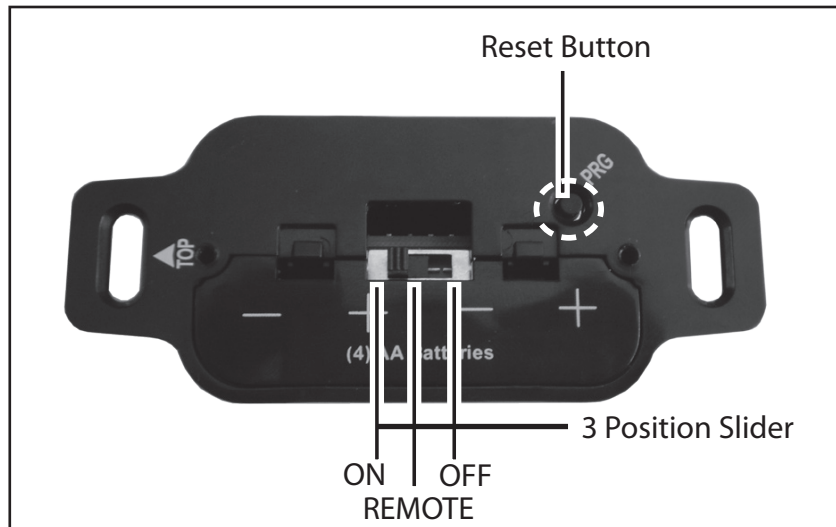

Figure 7: Battery Holder.
The Battery Holder (Figure 7) connects directly to the IFC with a wiring harness. The IFC is powered by four (4) AA type batteries. The IFC accepts commands via radio frequency from the Transmitter to operate the appliance in accordance with the particular Proflame system configuration. The Battery Holder has a three (3) position slider switch that can be set to one of three positions: ON (Manual Override), Remote (Remote control), or Off. The Battery Holder has a reset button at the front right corner that is used to synchronize the Transmitter when using the for the first time, or after the batteries have been replaced.
Install the four (4) AA batteries into the IFC battery holder. Note the polarity of the battery and insert into the battery bay as indicated on the body of the battery holder. Press and release the reset button (see Figure 7).